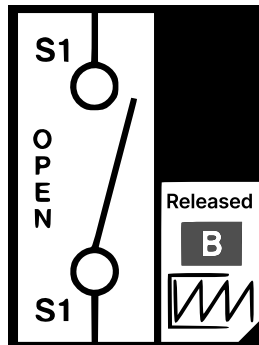

Figure 3-12. Source 1 Open, Spring Released
See Figure 3-12. Source 1 is open, and the Source 1 spring is released. Source 1 spring will need to be charged to close Source 1. Charge the spring by rotating in the counterclockwise (B) direction.